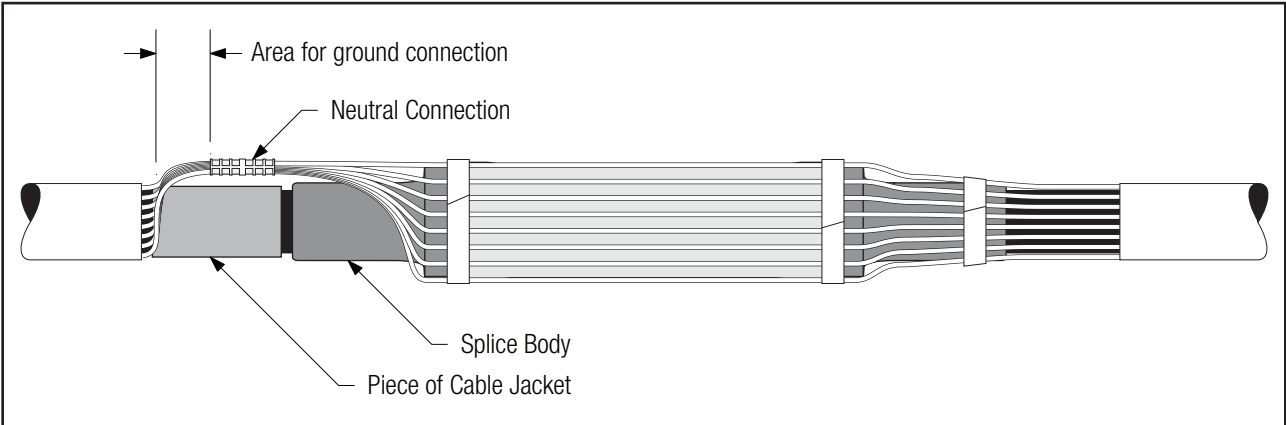

Figure 20
5.2.2 Use a piece of cable jacket, removed during cable preparation, to cover and protect exposed cable semi-con under the area where the neutral and/or ground connection will be made. Secure with tape. Ensure that the cable jacket piece does not touch the splice body (*Figure 20*).
5.2.3 Connect neutrals using a suitable compression connector ("INLINE", "C", or "H" type) between jacket end and reduced splice diameter. Keep connector profile as low as possible. Crimp connector following the connector manufacturer's recommendation (*Figure 20*).